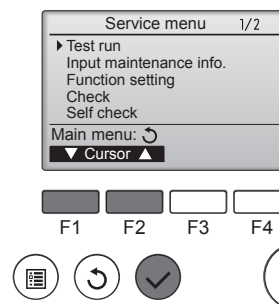

Fig. 7-1
- ① Select "Test run" from the Service menu, and press the [SELECT] button. (Fig. 7-1)